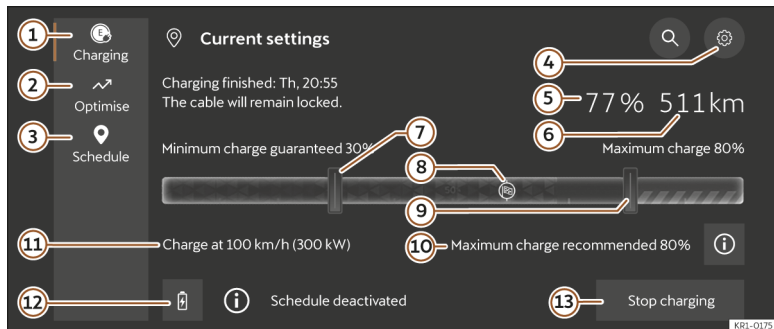

Fig. 61 In the infotainment system: Charging main menu.
1. Access the **Schedule** charging menu >>> **Fig. 61 ①**.
• **Maximum charging level >>> Fig. 61 ⑨:**
2. Push the ④ >>> **Fig. 61** button.